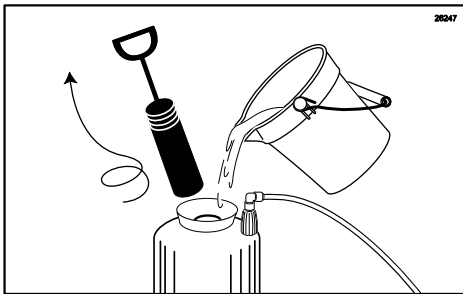

Figure 123
4. Remove the hand pump from the Sanitizer Tank and fill the Tank with approved sanitizer solution. (See Figure 123.)